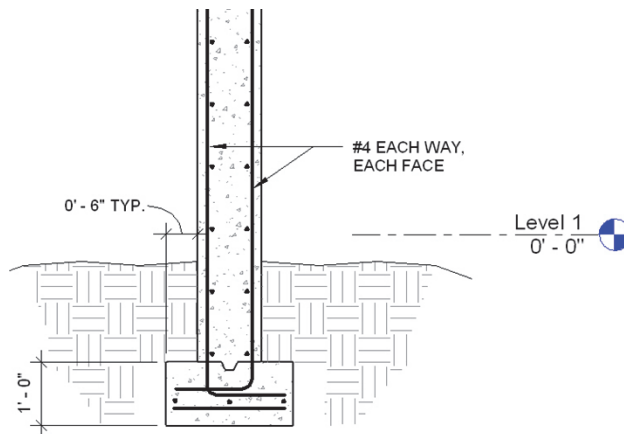

Figure 7–1
Wall footings for bearing and retaining are placed under walls and in Autodesk® Revit® software are actually hosted by the walls. Once a footing is in place, you can change the size of the section and add reinforcement, as shown in Figure 7–1, to make it a foundation bearing system. With the advantages of having a true foundation in place, you can accurately tag and schedule the footings. When a footing size or footing type changes, the software reads and updates the information where ever it is needed.
- You can apply two types of continuous footing systems, as shown in Figure 7–2; *Bearing footings* with an equal distance on either side of the bearing wall and *Retaining footings* with one side offset to accommodate additional lateral loads and reinforcement.